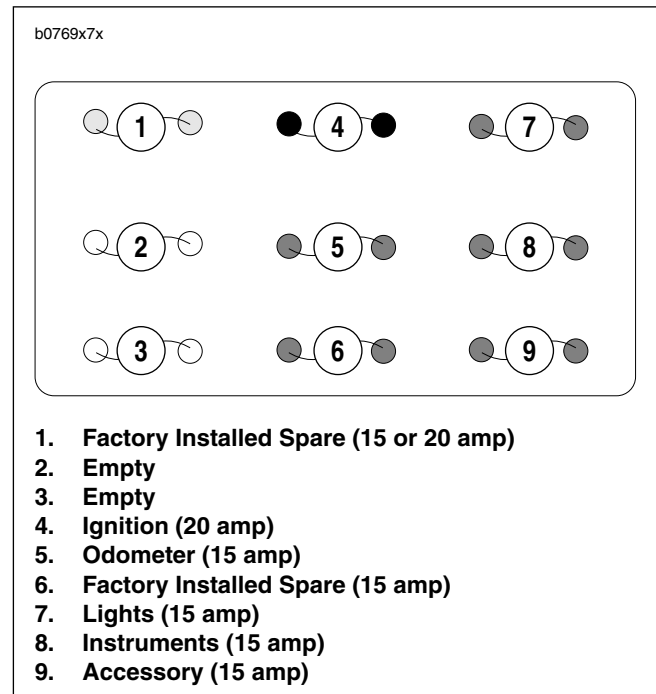

Figure 7-72. Fuse Block
See Figure 7-72. The ignition (4) fuse is rated at 20 amps. Fuses for the odometer (5), lights (7), and instruments (8) and accessories (9) are each rated at 15 amps.